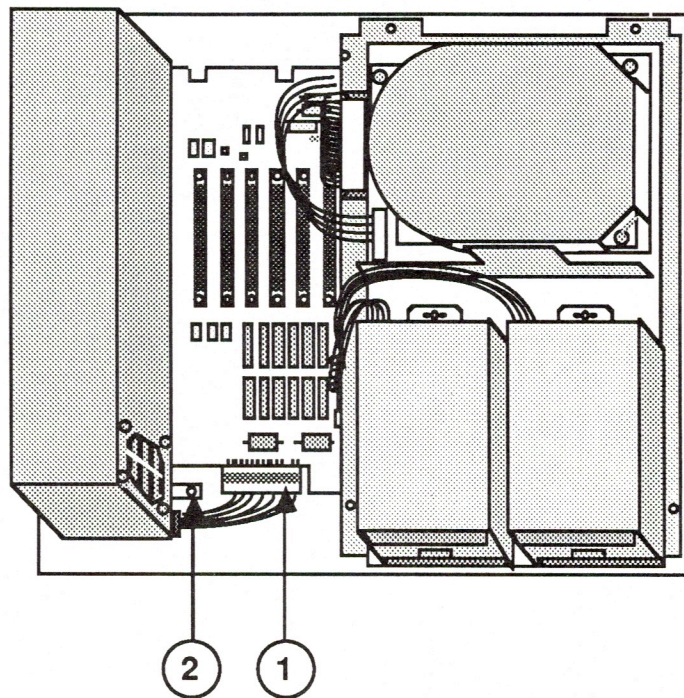

FIGURE 14
2. Disconnect the power supply cable from the logic board (Figure 14, #1). If necessary, use a small flatblade screwdriver to pry the cable loose.
3. Remove the Phillips screw that holds the power supply in place (Figure 14, #2).
2. Replace the Phillips screw that holds the power supply in place (Figure 14, #2).
3. Connect the power supply cable to the logic board (Figure 14, #1).